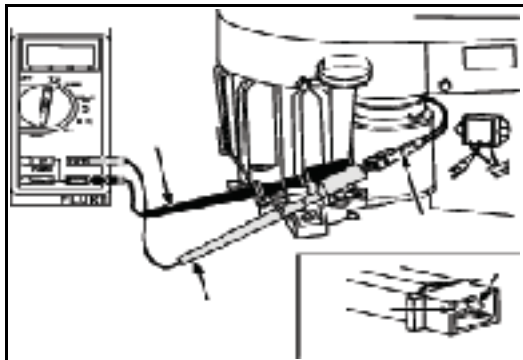

Fig. 24
3. Insert RED and Black test lead probes into output terminals in yellow connector, as shown in Figure 24.